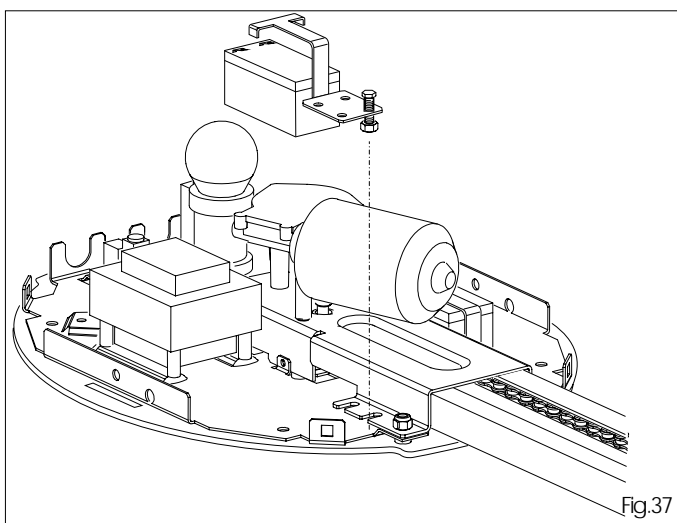

Fig.37
- Floating batteries installation procedure: fit them on the operator with the appropriate bracket, and secure them with screw and nut in the position shown in figure 37.